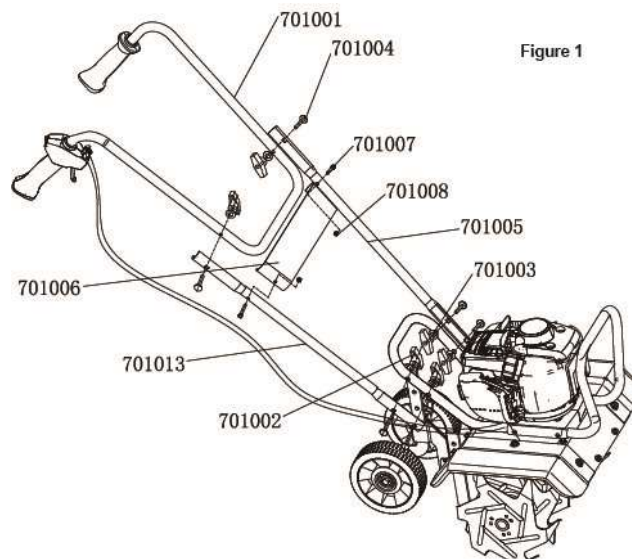

Figure 1
9. Using four T-Handle nuts, four bolts and four curved washers, assemble the “U” shaped middle handlebar section to the lower handlebar section that is already attached to the main assembly. See Figure 1 on previous page. **DO NOT OVERTIGHTEN T-HANDLE NUTS.**
10. Attach the upper right and left portions of the handlebars to the “U” shaped middle section using the two remaining t-handle nuts, bolts and curved washers. See Figure 1 on previous page.